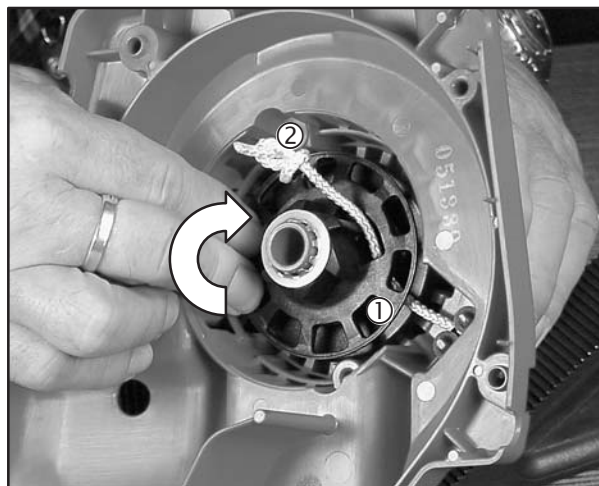

Fig. 4
7. Rotate pulley **CLOCKWISE**, **SEVEN (7)** complete turns.
9. Insert rope through eyelet in housing and then through hole in pulley (1), Fig. 4.
10. Tie a figure eight knot in end of rope (2), as shown.